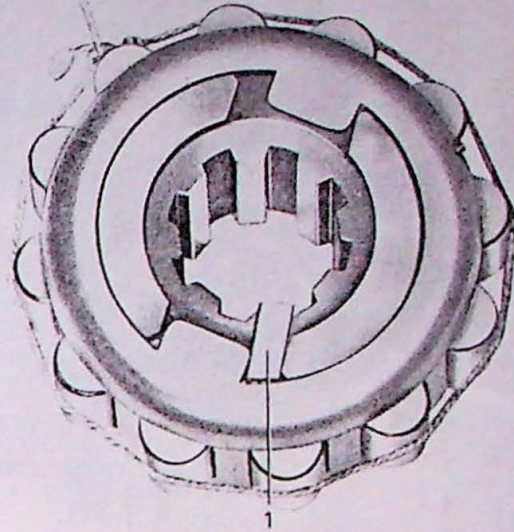
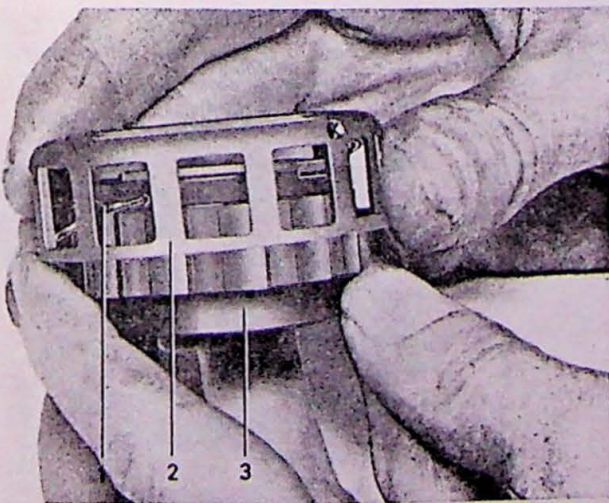

Fig. 3-50. Assembling the free wheel, II
Fig. 3-49. Assembling the free wheel, I
4. Assemble the free wheel hub (34), spring and roller retainer, see Fig. 3-49. Turn the roller retainer clockwise as far as it will go and lock it in this position with a key as shown in Fig. 3-50.